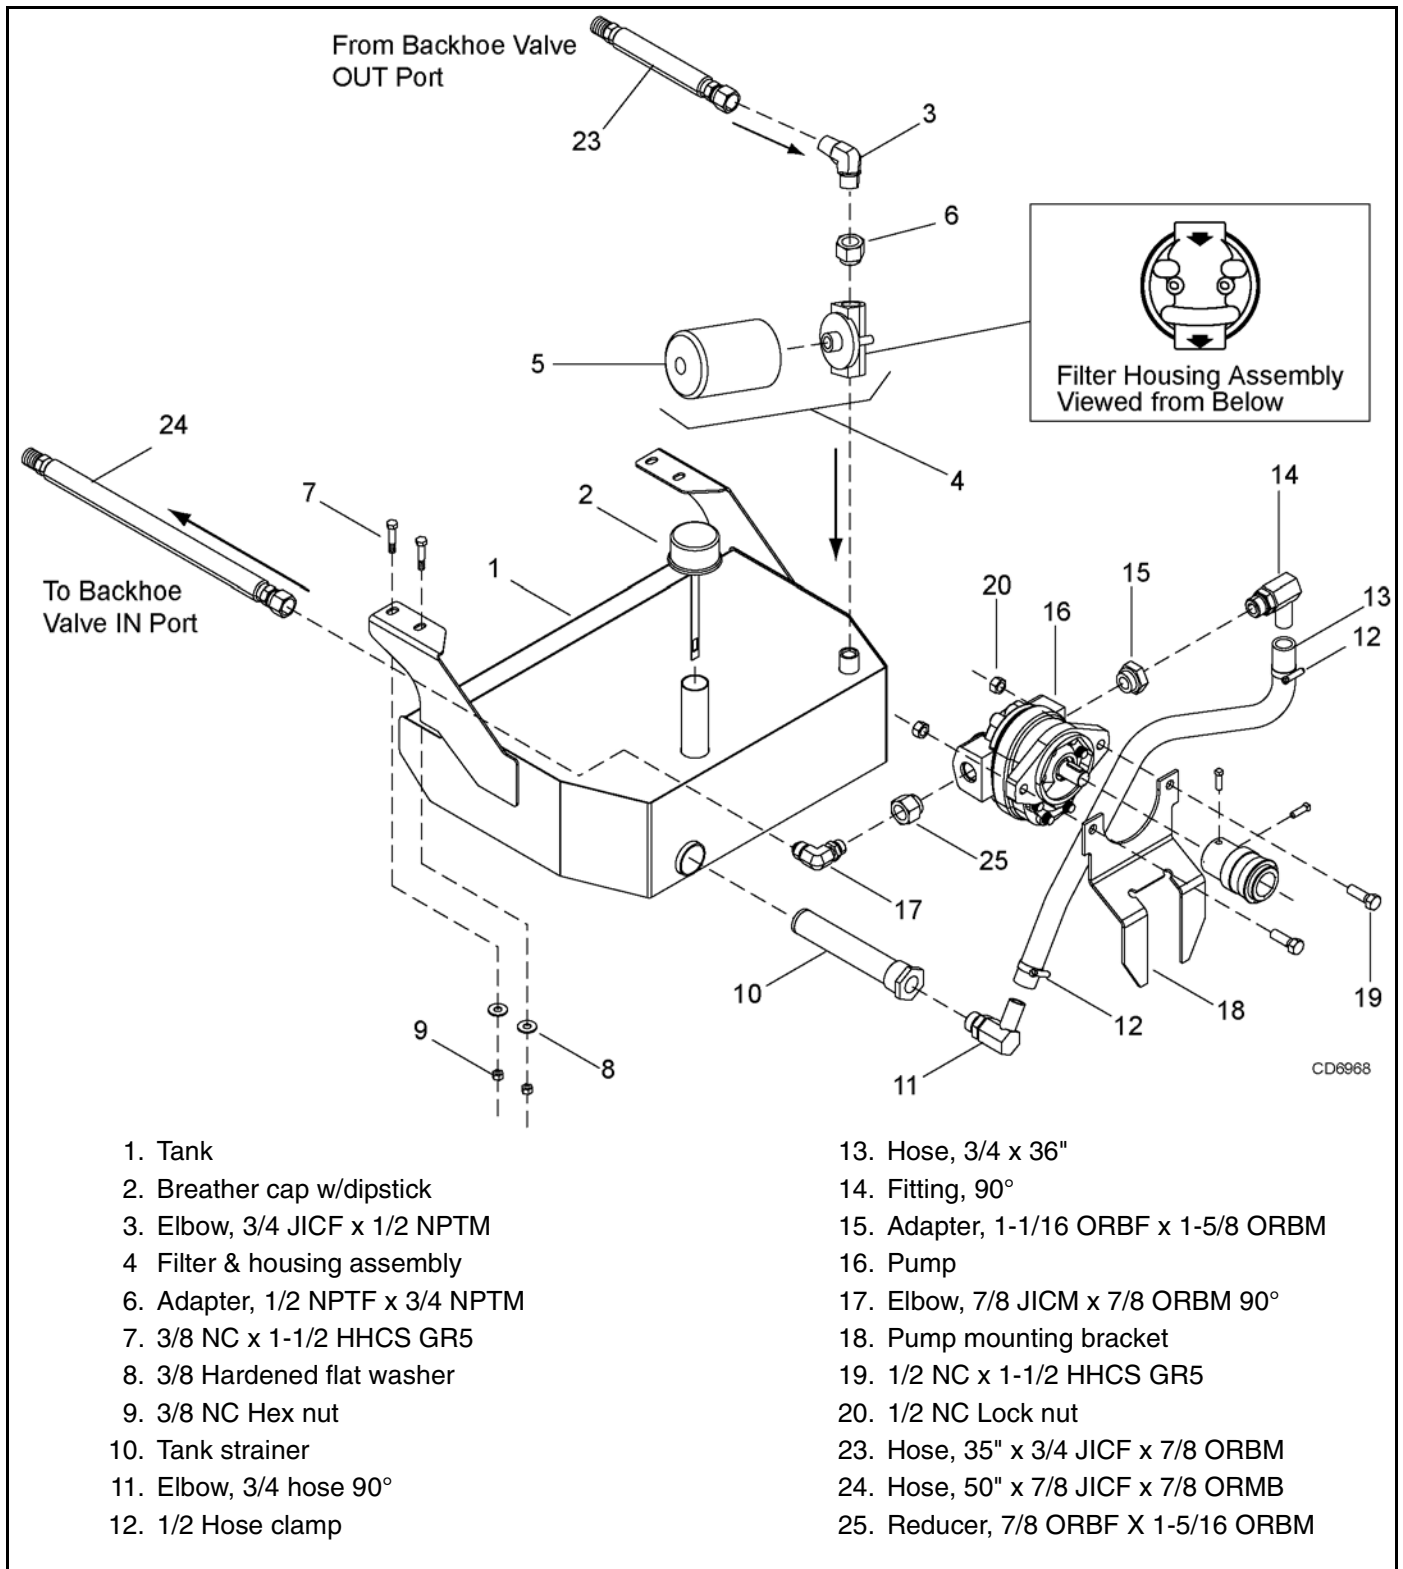

Figure 23. Pump & Reservoir Installation
Refer to Figure 23.
Attach pump mounting plate (18) to pump with bolts (19) and nuts (20), Figure 23.